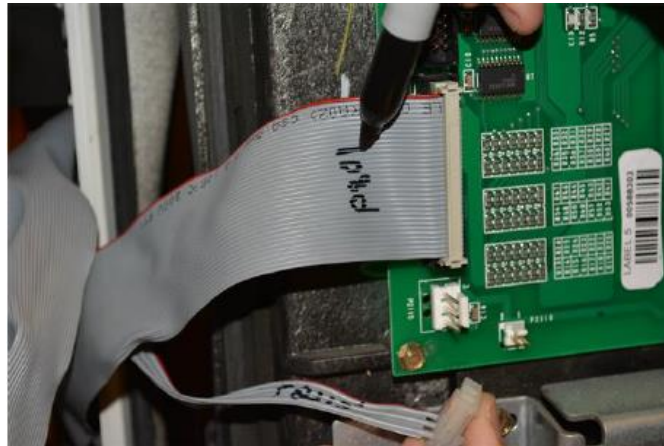

Fig 2.3a – Marking the cables
- a. Mark the following cables connected on the main display for later reconnection (Fig 2.3a): P804A, P801, P2115.
- c. Mark the following cables connected on the main display for later reconnection (Fig 2.3a): LON Header 1 (P2109), LON Header 2 (P2112), PPU (P2101), +9.4VAC (P2115), and Manager Keypad (A-Side Only) (P2108).